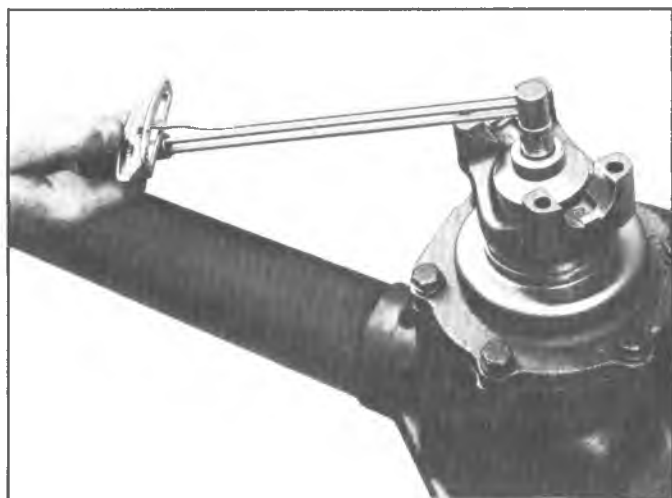

Fig. 15E—Measuring Rotating Torque
- b. Tighten pinion nut to approximately 350 ft. lbs., then take a torque reading as shown in figure 15E, using J-5853.